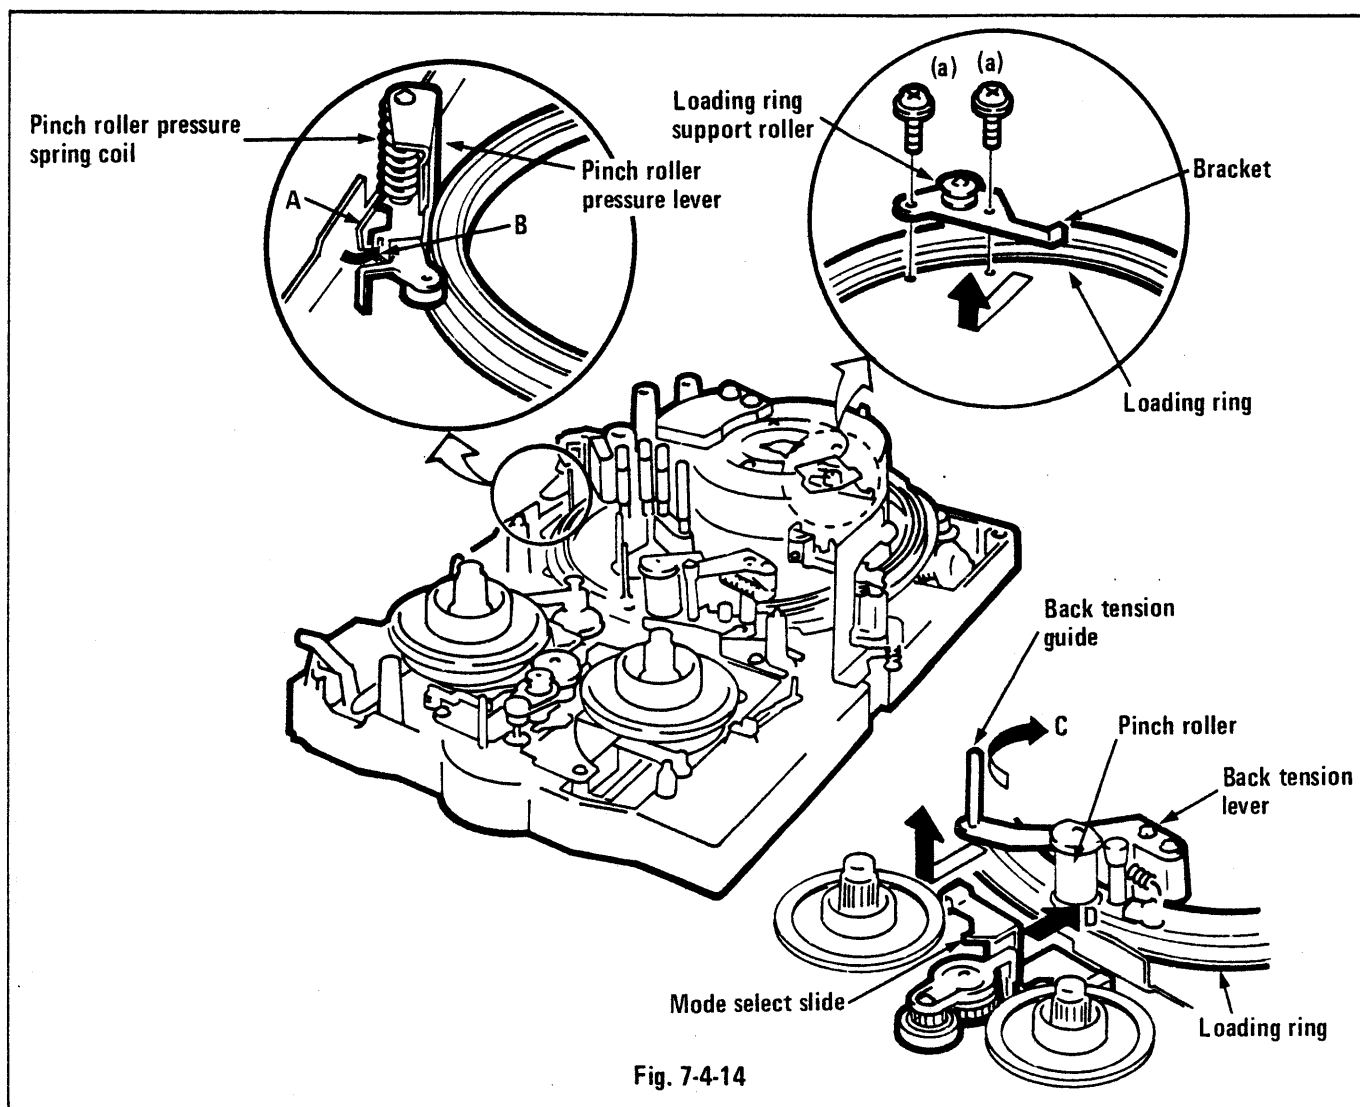

Fig. 7-4-14
- (8) Install the loading motor by using the reverse order of the removal procedure.
14. LOADING RING (see Fig. 7-4-14.)